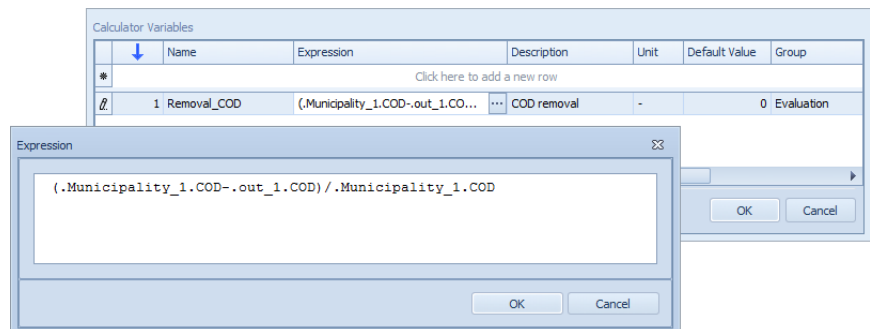

Figure 7.9 Add calculator variable dialogue window
- In the Calculator Variables dialogue window, add a new row and fill in the relevant information (Figure 7.9):